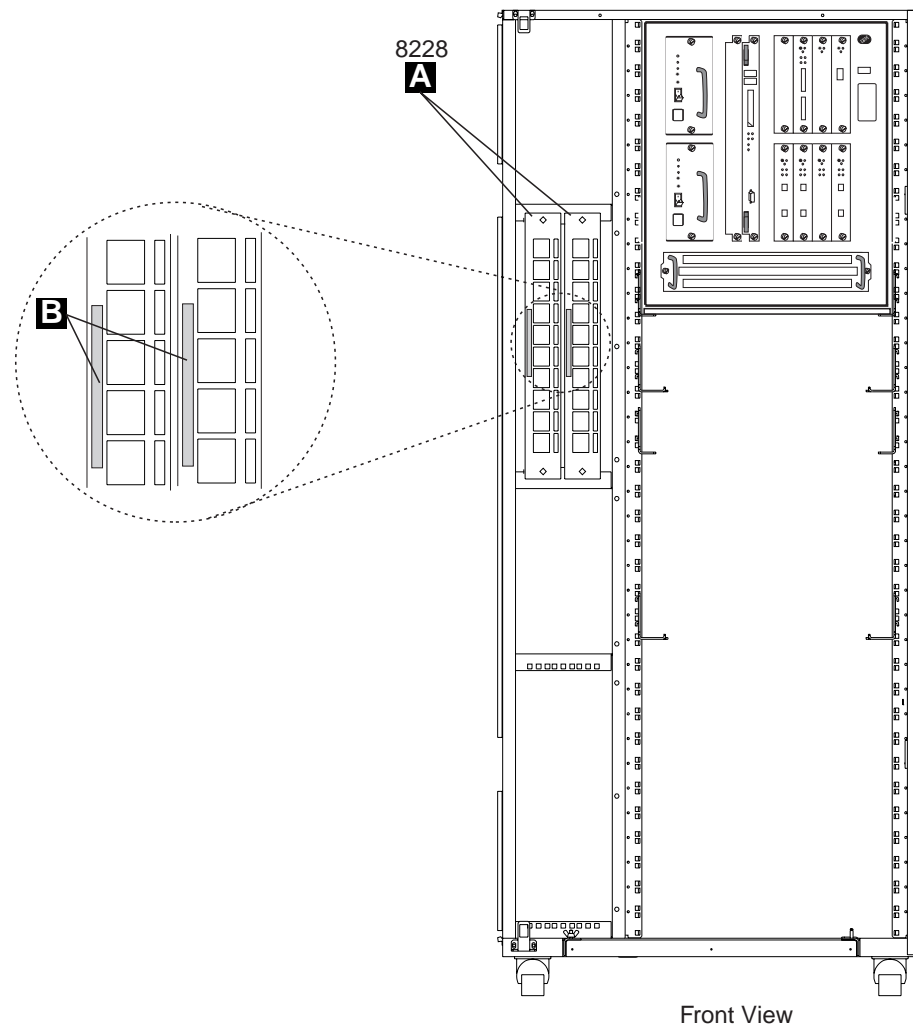

Figure 1-19. Installing the 8228 (Controller Expansion)
- \_\_\_ 6. Install the 8228s **A** in the controller expansion using two screws (PN 1621232) and two captive nuts (PN 58G5766) see Figure 1-19. Using label **B** (PN 782964), identify the 8228 as MAE Access Unit.